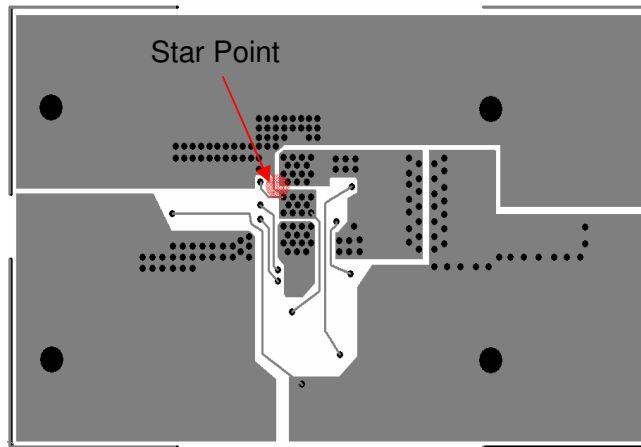

Figure 3 Common Connection point for PgnD and Gnd
- 4) Pgnd and Gnd should be kept as separate nets, with a single common connection (star), made by a short track from Pgnd to Gnd power pad under the device (Figure 3).